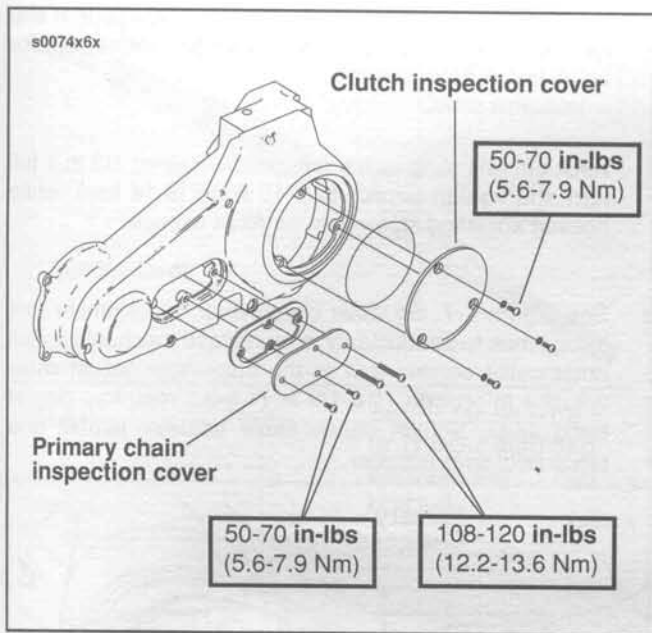

Figure 1-2. Primary Chaincase Covers
1. See Figure 1-2. With vehicle upright and level, remove the primary chain inspection cover.
- Install inspection cover with **new** gasket. Tighten primary chain inspection cover screws to values shown in Figure 1-2.
- See Figure 1-2. Remove three socket screws with rubber sealing washers and clutch inspection cover. Discard sealing washers.
2. See Figure 1-2. Remove three screws, rubber sealing washers and clutch inspection cover. Discard washers.